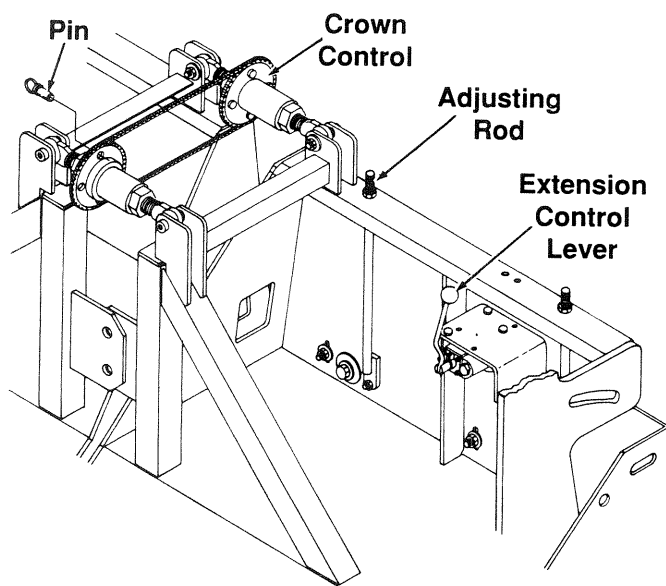

Figure 11
(1) To set lead crown, remove pins from rear crown sprocket and increase the crown. The front sprocket will turn independently of the rear crown. (*Figure 11*)
(2) After the front crown is set at 1/16 to 1/8 inch, reinstall the sprocket pins and recheck the rear crown to make sure the front crown adjustment did not alter the flatness.